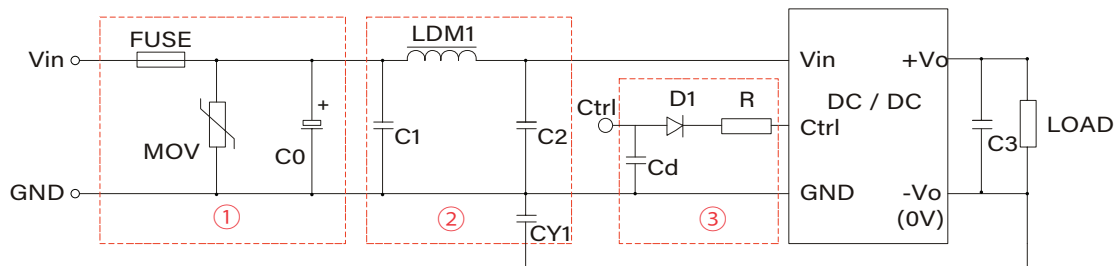

Fig. 7
1. For EMC tests we use Part 1 in Fig.7 for immunity and part 2 for emissions test. Selecting based on needs.